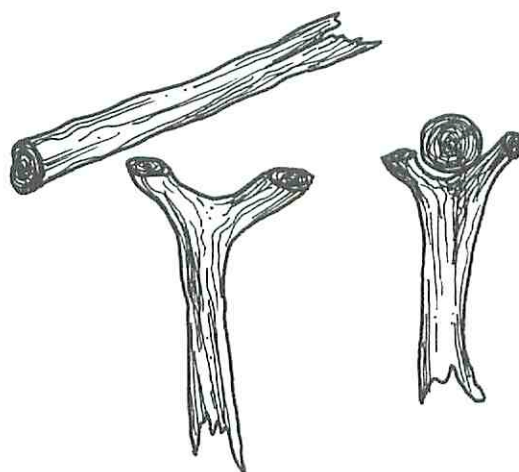

Figure 2
Finally, to complete the basic frame of the chair, you'll put the arms (G) in place. If your front legs are equipped with a Y-shaped top, the arms can rest in the crotch of the Y. See Fig. 2. If they have a smooth end, just rest the arms on top. Either way, the arms should be placed with the flat sides up. You'll need to notch out curves at the back of the arms so they'll fit snugly to the back legs. The arms can be screwed in place at front and back or, for extra stability, lag bolts can be used to secure the arms to the back legs.